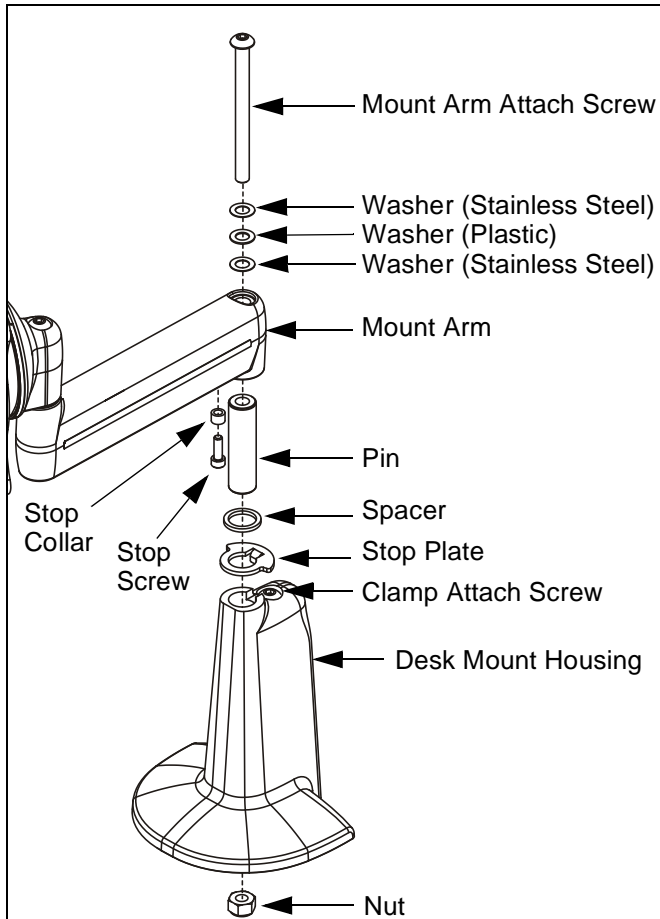

Figure 2: Disassemble Desk Mount
2. If previously attached, loosen (do not remove) clamp attach screw (See Figure 2). Remove desk mount from desk. See instructions included with desk mount.
3. Turn mount assembly upside down and place in your lap. With one hand, grasp desk mount housing and lift slightly off lap. With other hand, using 3/16" hex key, loosen and remove mount arm attach screw and other related items (See Figure 2). Retain all items, except stop plate, for later mount arm assembly.
4. Remove stop screw and stop collar from mount arm (See Figure 2). These will not be reused with Y-connector (10).